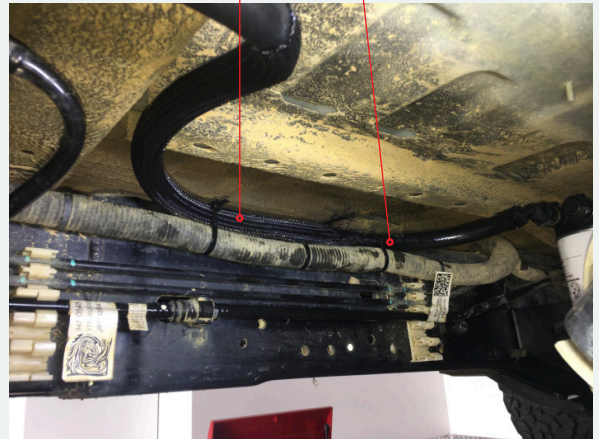

FIGURE 4B
- 6 Install HF9805A fuel hose by connecting MS4111 straight connector side into the fuel tank outlet connector, then proceed to connect MS4097 elbow connector side into the Z980SK16 inlet port. Refer to FIG. 4A and 4B. Ensure you press both fittings on firmly until you hear a 'click'. FIG. 4B shows suggested locations for zip ties to hold HF9805A fuel hose.